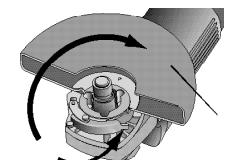

FIG. 5
1. Open the guard latch (J), and align the arrow (K) on the guard with the arrow (L) on the hub. This will align the lugs with slots on the gear case cover. Position the guard facing backward.
3. Rotate guard (I) into desired working position. The guard body should be positioned between the spindle and the operator to provide maximum operator protection.
**NOTE:** The guard is pre-adjusted to the diameter of the gear case hub at the factory. If, after a period of time, the guard becomes loose, tighten the adjusting screw (M) with the clamp lever in the closed position (Fig. 5).